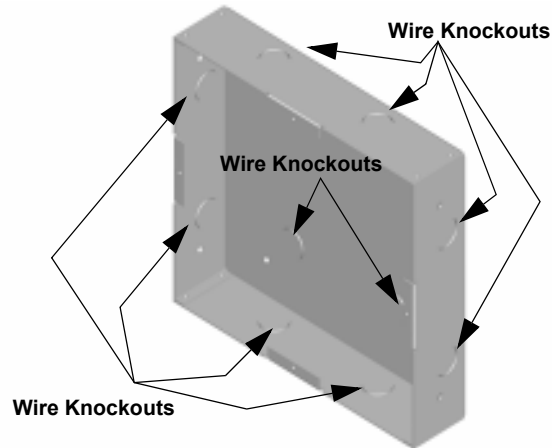

Figure 4: Back Box Knockout Locations
2. Remove knockout holes as needed for wires. See Figure 4
1. Remove the desired knock out. See Figure 4.